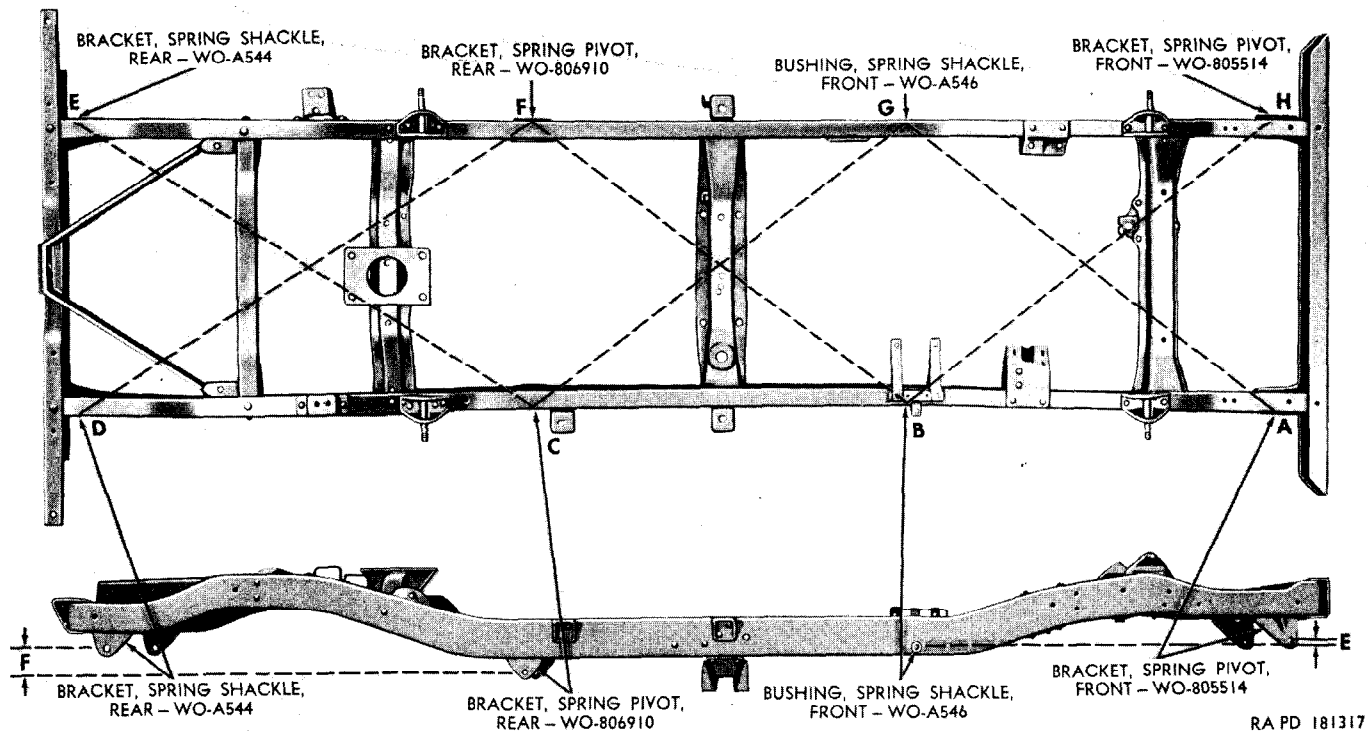

Figure 181. Frame alinement points.
a. *Inspection* (fig. 181).
- (1) *General.* Inspection of the frame should be made before removal from the vehicle and after removal. Since improper steering geometry or axle alignment may offer similar symptoms of improper vehicle operation as those caused by a distorted frame (due to accident), it is recommended that
- (2) *Inspection of frame prior to removal.* Check frame for mis-alinement. If a frame alining fixture is not available, use the "X" or diagonal method (fig. 181) of checking frame alinement. The most convenient method of checking alinement while the frame is still installed on the vehicle is by marking on the floor all points from which measurements should be taken. Figure 181 illustrates check points that should be used for making plumb bob marks.
- (a) Position vehicle on a clean level floor or other suitable place. Hang a plumb bob from each point (A through H) as indicated in figure 181. Mark spots on floor beneath plumb bob points.